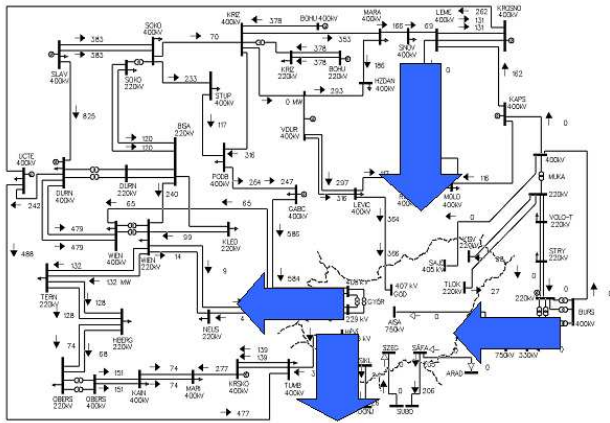

Fig. 1. Investigation of power transit by load-flow
- Network monitoring (see fig.1.)